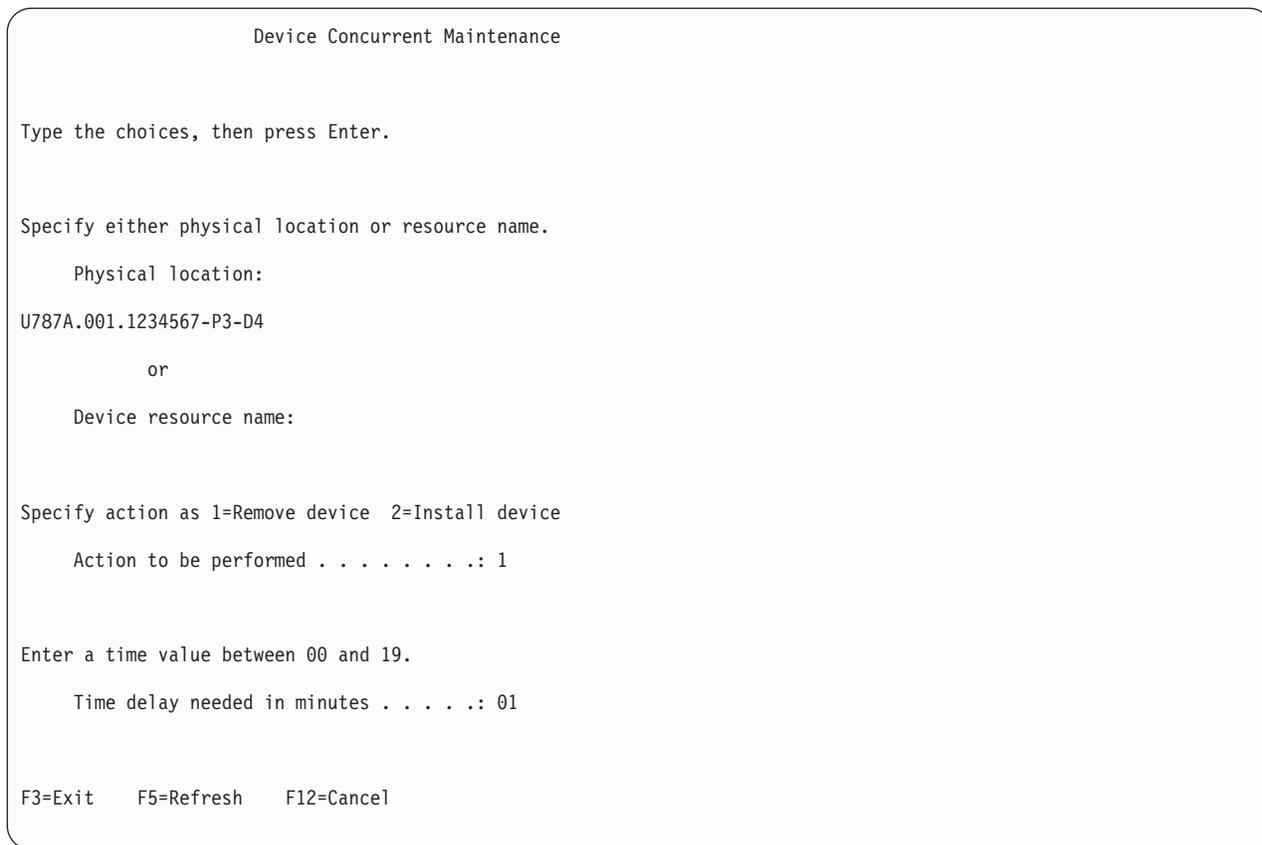

Figure 25. Example Device Concurrent Maintenance display
12. If the physical location does not appear in the Device Concurrent Maintenance display, type the physical location where you will be replacing the disk drive as shown in the preceding example, Figure 25.